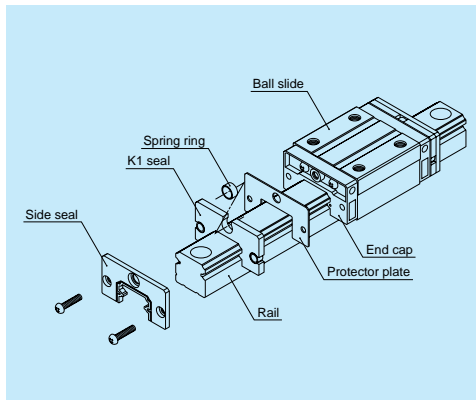

Fig. II-5-2
- Along with the protection plate, a K1 Lubrication Unit is installed between the end cap and the end seal at both ends of the linear guide (Fig. II-5-2). K1 Lubrication Unit is already equipped at the time of delivery.